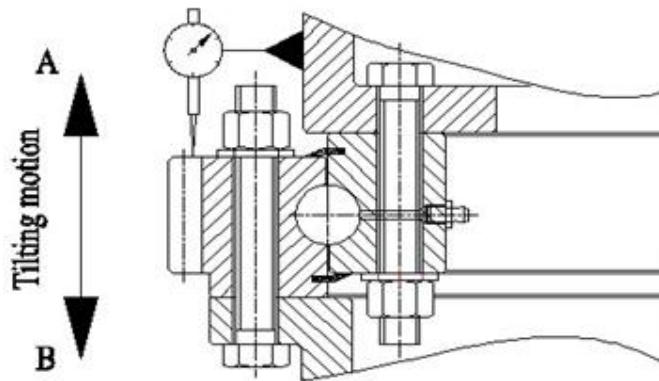

Figure 3. Tilting Clearance Measurements
- Attach the dial gauge as shown in Figure 3.